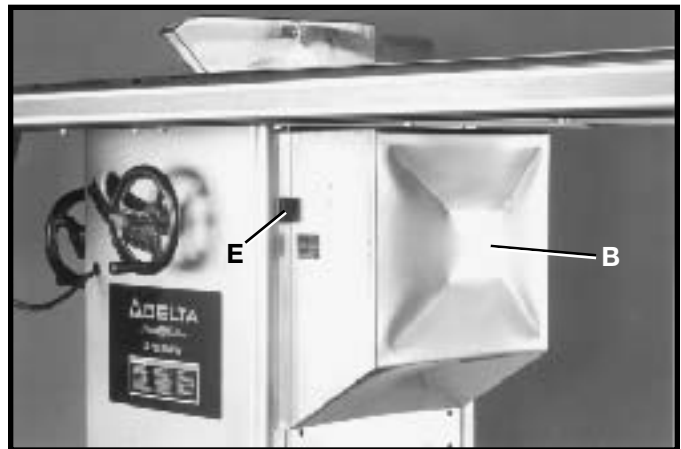

Fig. 44
5. Push down on lever (E) Fig. 44, to lock motor cover (B) in position on the saw cabinet.
6. To open motor cover (B) Fig. 44, pull up on lever (E) and swing motor cover outward.